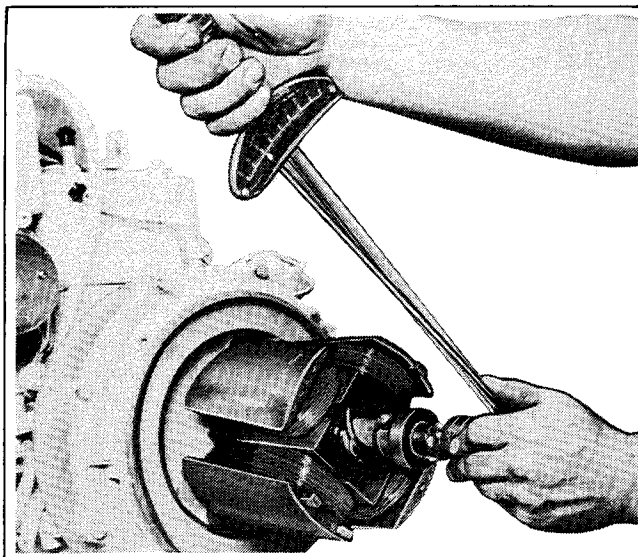

Figure 8-2. Torque Thru Bolt
3. Lift rotor assembly onto stub shaft and replace thru bolt. Torque thru bolt to 50 ft. lbs. (68 Nm). See Figure 8-2.